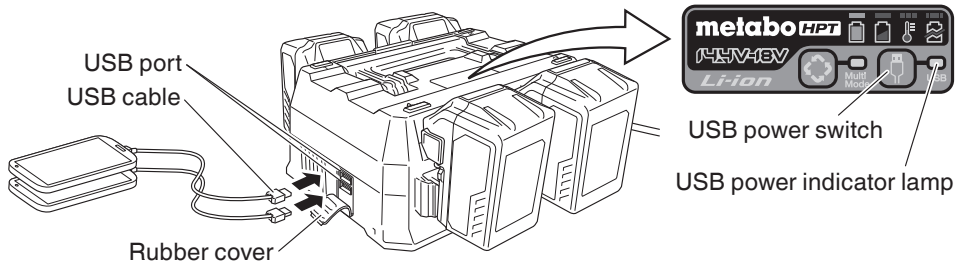

Fig. 6
(2) Turn the USB power switch ON (Fig. 6)
(3) Connect the USB cable. (Fig. 6)